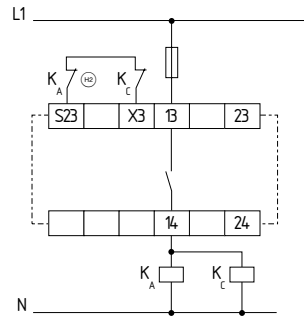

Fig. 9
**Single-channel control with feedback circuit (Fig. 9)**
- (FB) = feedback circuit: